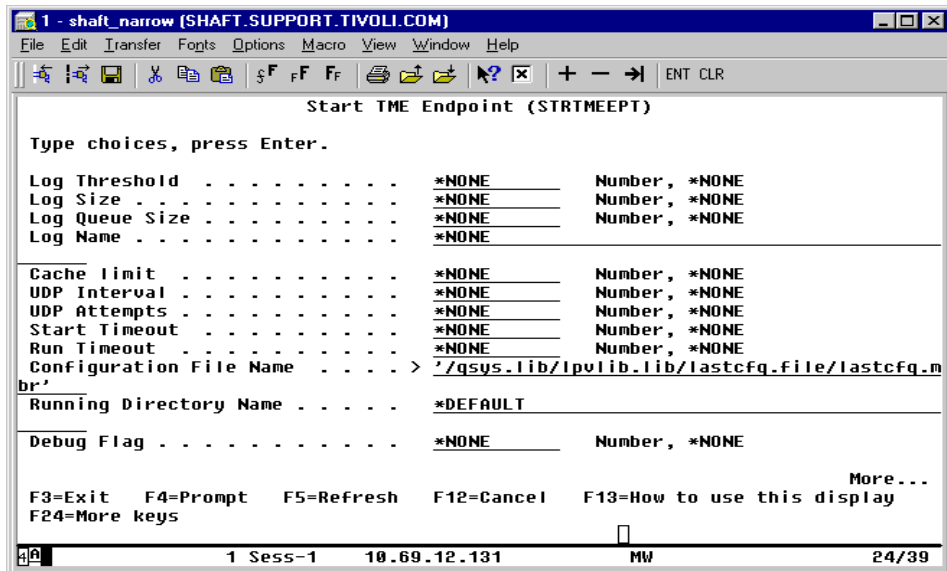

Figure 35. Start TMA Endpoint (STRTEEPT)
- Now, when we issue the Start TMA Endpoint command, we specify the Configuration File parameter using IFS notation as shown in Figure 35.